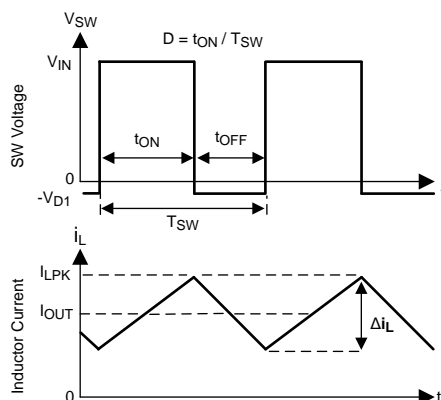

Figure 33. SW Node and Inductor Current Waveforms in Continuous Conduction Mode
The following operating description of the LM46000 refers to the Functional Block Diagram and to the waveforms in Figure 33. The LM46000 is a step-down buck regulator with both high-side (HS) switch and low-side (LS) switch (synchronous rectifier) integrated. The LM46000 supplies a regulated output voltage by turning on the HS and LS NMOS switches with controlled ON-time. During the HS switch ON-time, the SW pin voltage V_{SW} swings up to approximately V_{IN} , and the inductor current I_L increases with a linear slope $(V_{IN} - V_{OUT}) / L$. When the HS switch is turned off by the control logic, the LS switch is turned on after a anti-shoot-through dead time. Inductor current discharges through the LS switch with a slope of $-V_{OUT} / L$. The control parameter of buck converters are defined as duty cycle $D = t_{ON} / T_{SW}$, where t_{ON} is the HS switch ON-time and T_{SW} is the switching period. The regulator control loop maintains a constant output voltage by adjusting the duty cycle D . In an ideal buck converter, where losses are ignored, D is proportional to the output voltage and inversely proportional to the input voltage: $D = V_{OUT} / V_{IN}$.